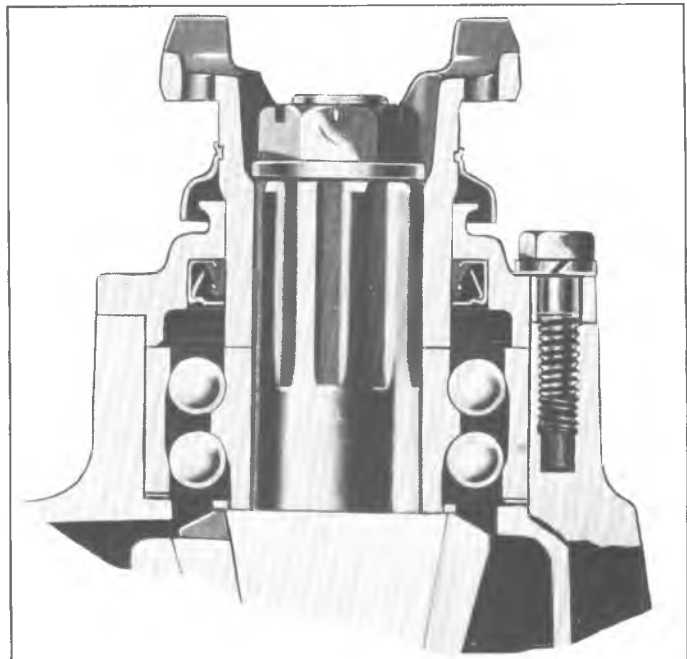

Fig. 77—Pinion Oil Seal—12-1/4" Axle
4. Remove the bolts retaining the oil seal retainer to the carrier, and remove the retainer. See figure 77.